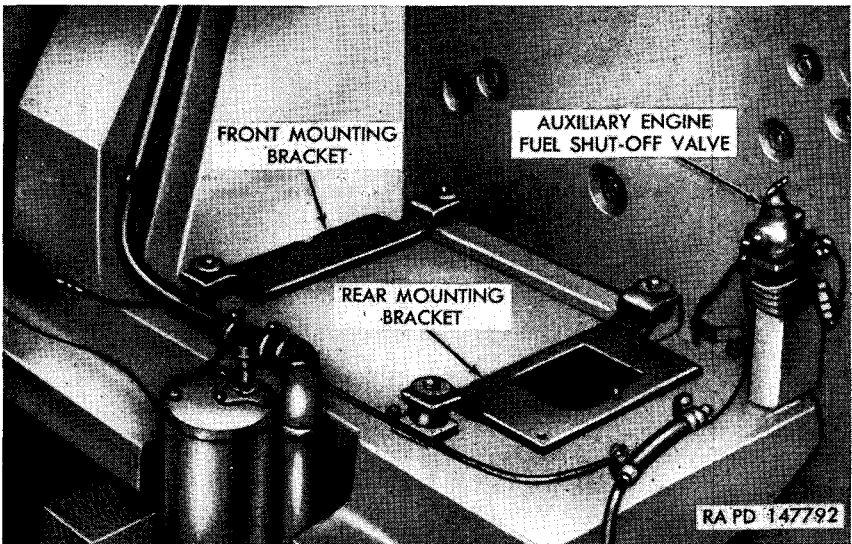

Figure 323. Auxiliary engine mounting brackets.
- (1) Remove auxiliary generator and engine (par. 303b).
- (2) Remove four cap screws, plain washers and lock washers (two each bracket) securing mounting brackets to hull (fig. 323).
- (1) Position mounting brackets on hull (fig. 323) and secure with four cap screws, lock washers, and plain washers (two to each bracket).
- (2) Install auxiliary generator and engine (par. 303c).